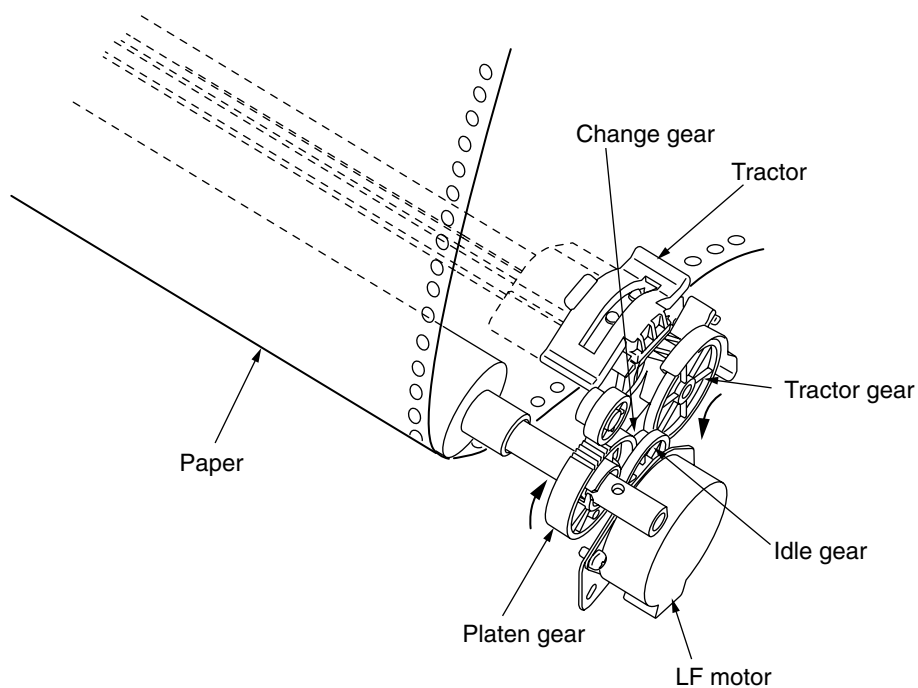

**Figure 7**
(2) Cut-sheet feeder operation (See Figure 7.)